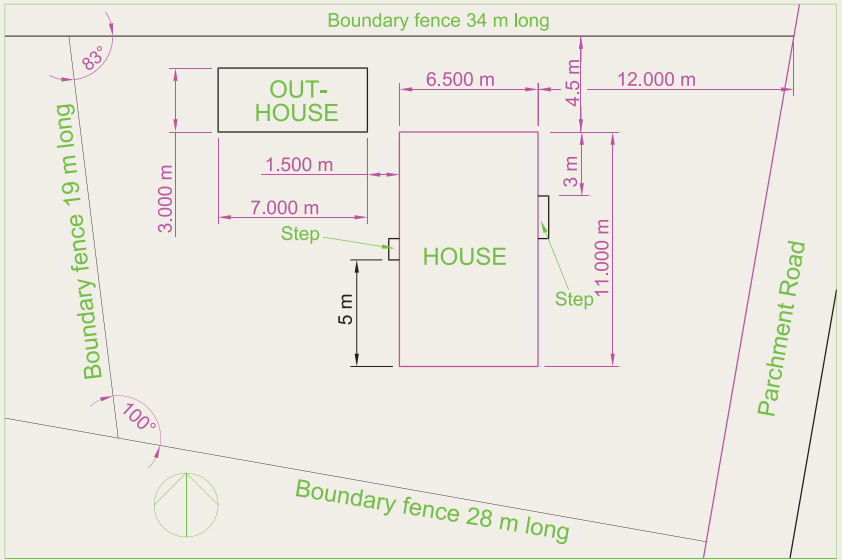

Fig. 16.29 Exercise 2
- 2. Fig. 16.29 is a site plan of a two-storey house a building plot. Design and construct to a scale 1:50, a suggested pair of floor layouts for the two floors of the proposed house.